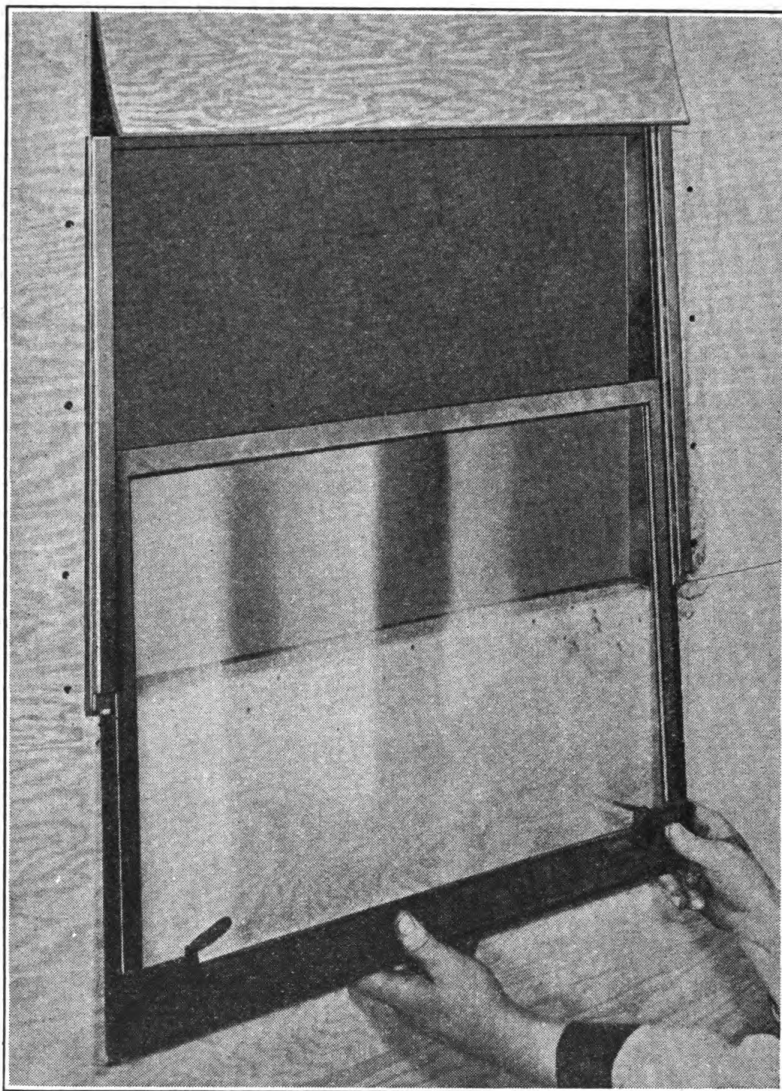

FIGURE 66. REMOVING WINDOW GLASS.
d. Pull out on window guide channel and lower window frame assembly (Fig. 66).